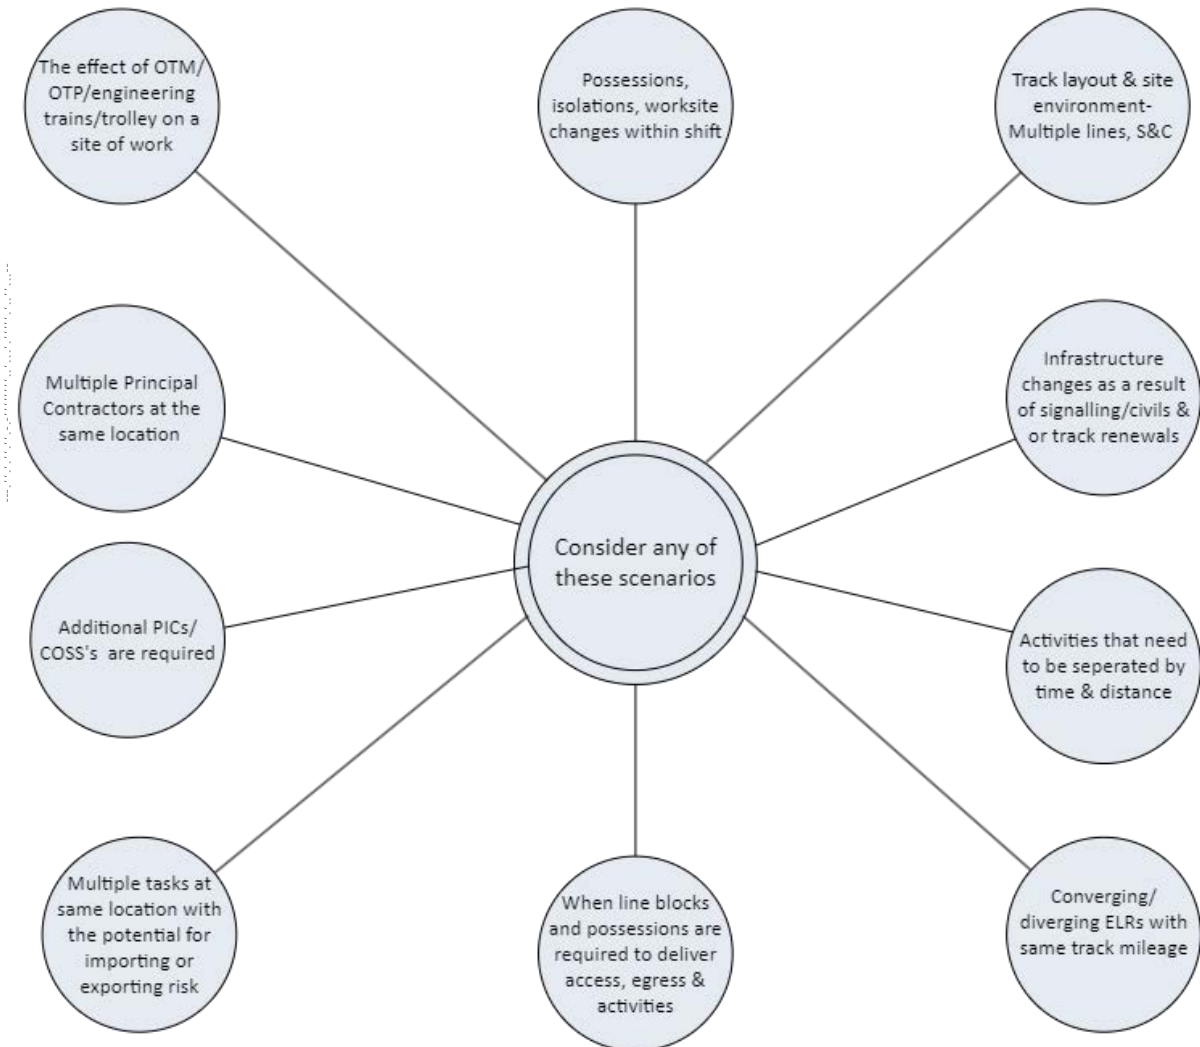

Figure 1 – What makes a complex site of work?
2.1 Decide in Figure 1 if the access, egress, and activity is a complex site of works.